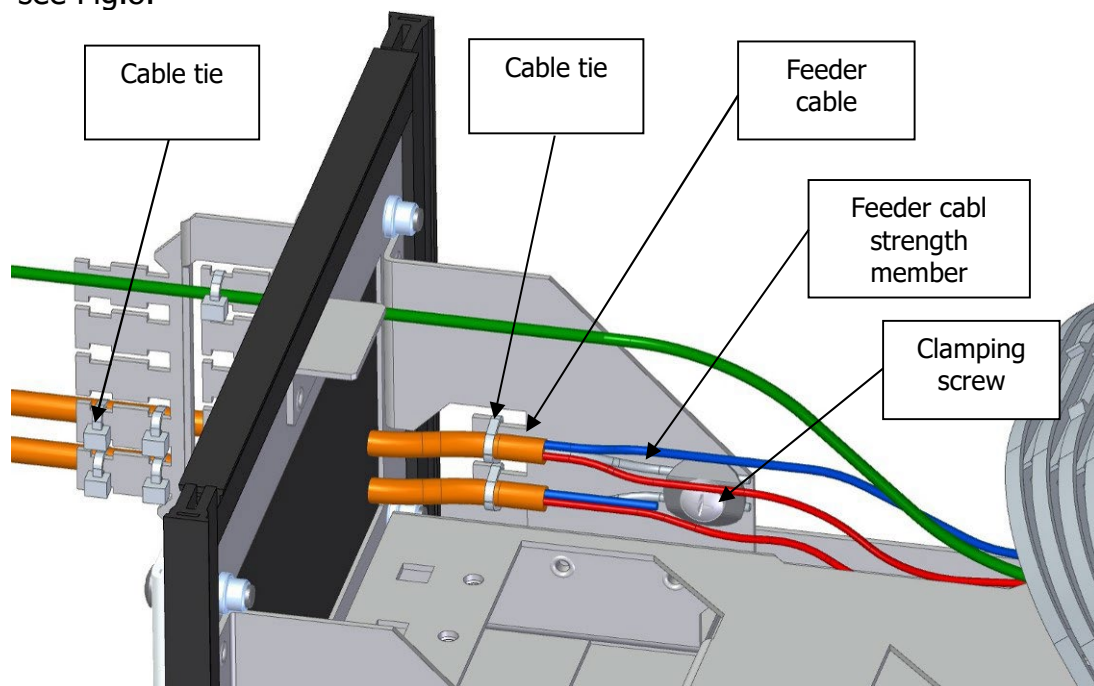

Fig.8. Feeder cable fixation
11. Inside the splice box, the feeder cable strength members are fixed with the dedicated clamping screws with washers and the cable is fastened with cable ties, see Fig.8.
5. Inside the splice box, the feeder cable strength members are fixed with the dedicated clamping screws with washers and the cable is fastened with cable ties, see Fig.8.